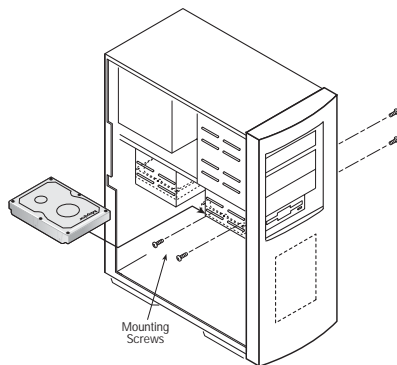

Figure 4
- Mount the hard drive in the 3.5-inch bay using the screws provided. See Figure 4.